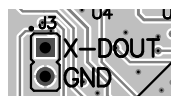

Figure 7. Alternative Header J3
- J16 - SDOUT will be driven at IOVDD levels. J3 is available as an alternative header as shown in Figure 7 and will always allow the user to sample SDOUT at 3.3 V.